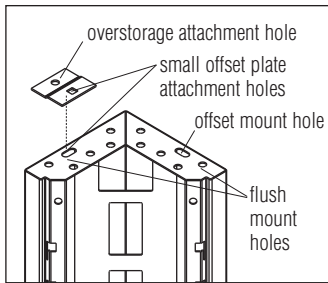

**Figure 1**
4. Tighten all hardware and replace worksurface grommets and covers (Figure 1).